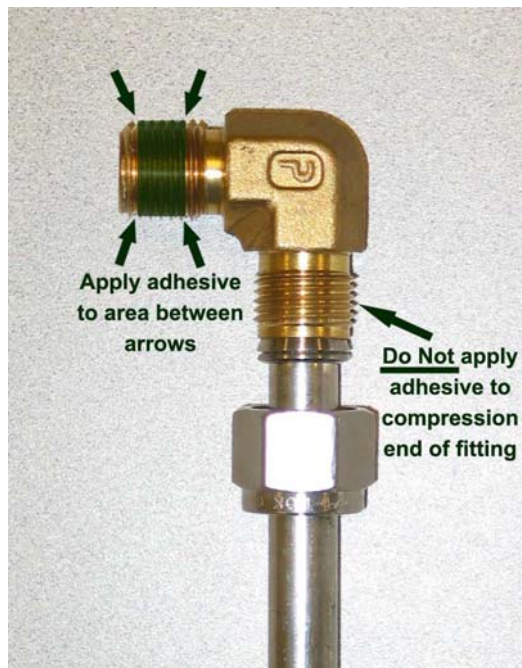

Figure 1
This procedure addresses the proper use of hydraulic sealants on vehicle tanks. It is important that the appropriate amount of sealant is used whenever installing parts onto the vehicle fuel tank. A thin coat of sealant should be spread evenly over the area shown in Figure 1. Sealant should not drip or run from the part to which it was applied. Either excessive or too little sealant can lead to potential problems later after tank is put back into service.
- 2) Apply sealant to male threads. Start approximately one (1) or two (2) threads from the threaded end of the part to be installed. Refer to Figure 1 for approximate locations of where **sealant** should be applied.